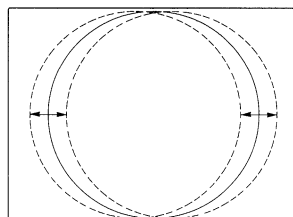

fig. 6
- Adjust the horizontal amplitude to obtain 9% overscan (fig. 6).